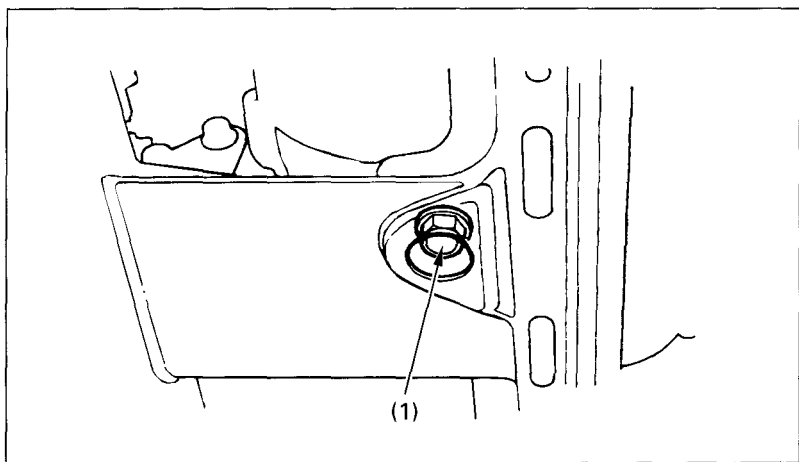

Fig. 4-13
2. Place an oil drain pan under the crankcase and remove the oil drain plug (Fig. 4-13).